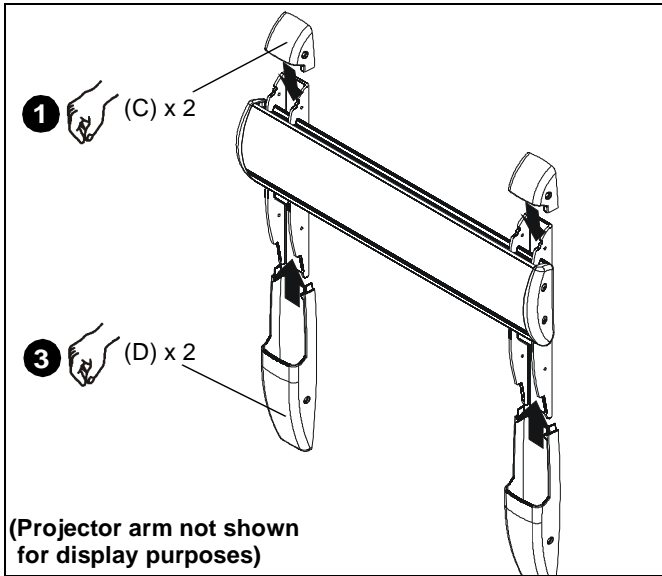

Figure 61
1. Place wall bracket top caps (C) over top of each wall bracket arm. (See Figure 61)
3. Place wall bracket bottom caps (D) over bottom of each wall bracket arm. (See Figure 61)